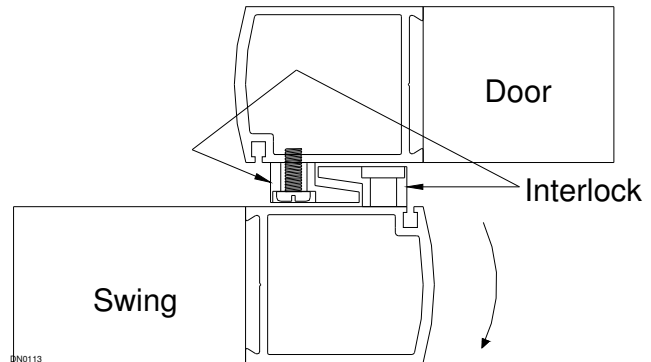

Figure 35
4. When interlock position is correct, drill a 1/8 inch hole through interlock and into stile. Pound a roll pin found in parts box into each hole to lock interlocks in place (See Figure 35).